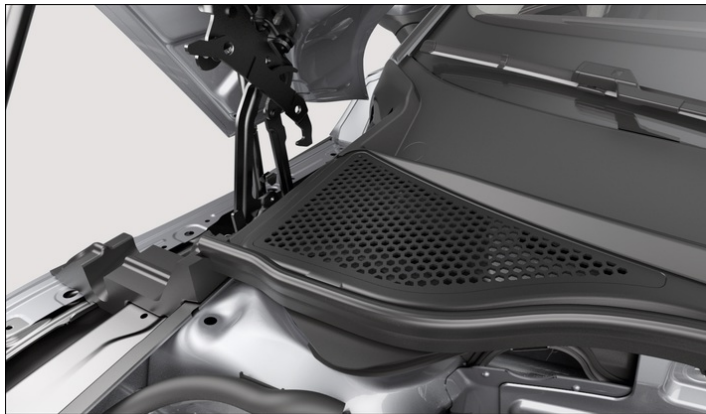

Fig. 1 Between the bonnet space and the windscreen: plenum chamber (illustration).
- Remove leaves and other loose objects with a vacuum cleaner or by hand → Fig. 1 , → ⚠.